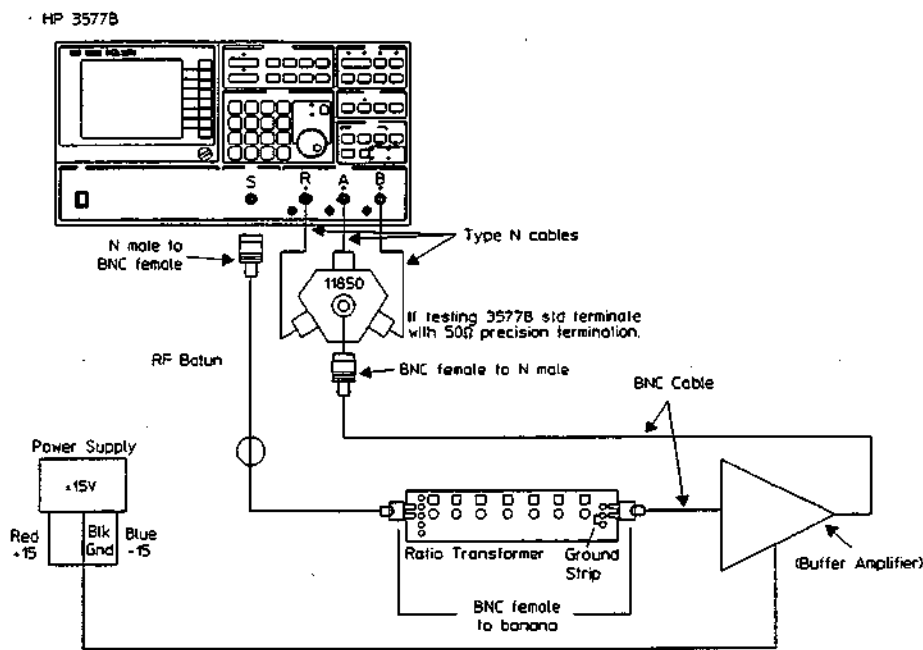

Figure 3-5. Dynamic Linearity Test Set-Up
- b. Connect test equipment as shown in figure 3-5.